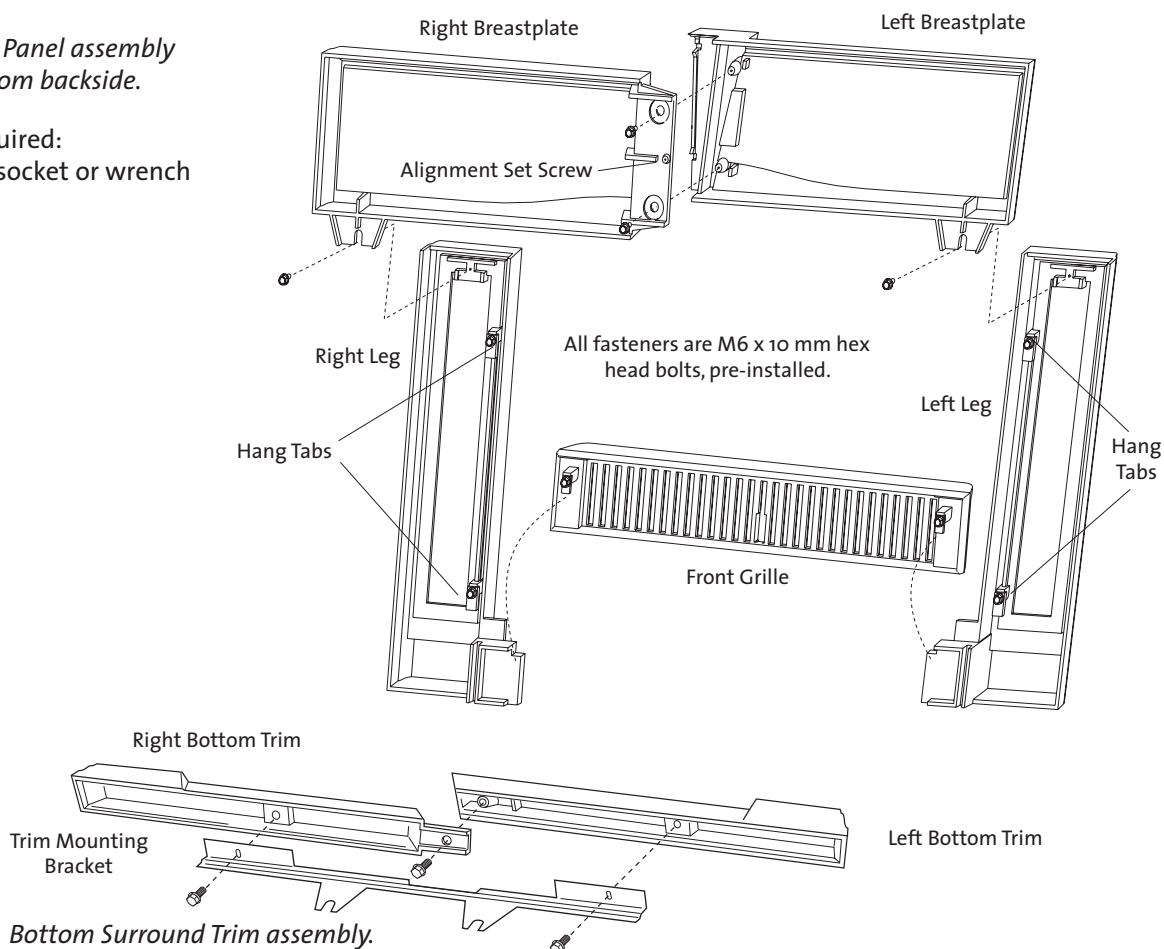

Figure 14. Bottom Surround Trim assembly.
4. Attach the two Bottom Surround Trim panels together with the single M6 x 10 hex bolt. Attach the Trim Mounting Bracket to the back of the Bottom Trim assembly using the other two M6 x 10 bolts and washers. Orient the bracket as shown in fig. 14.